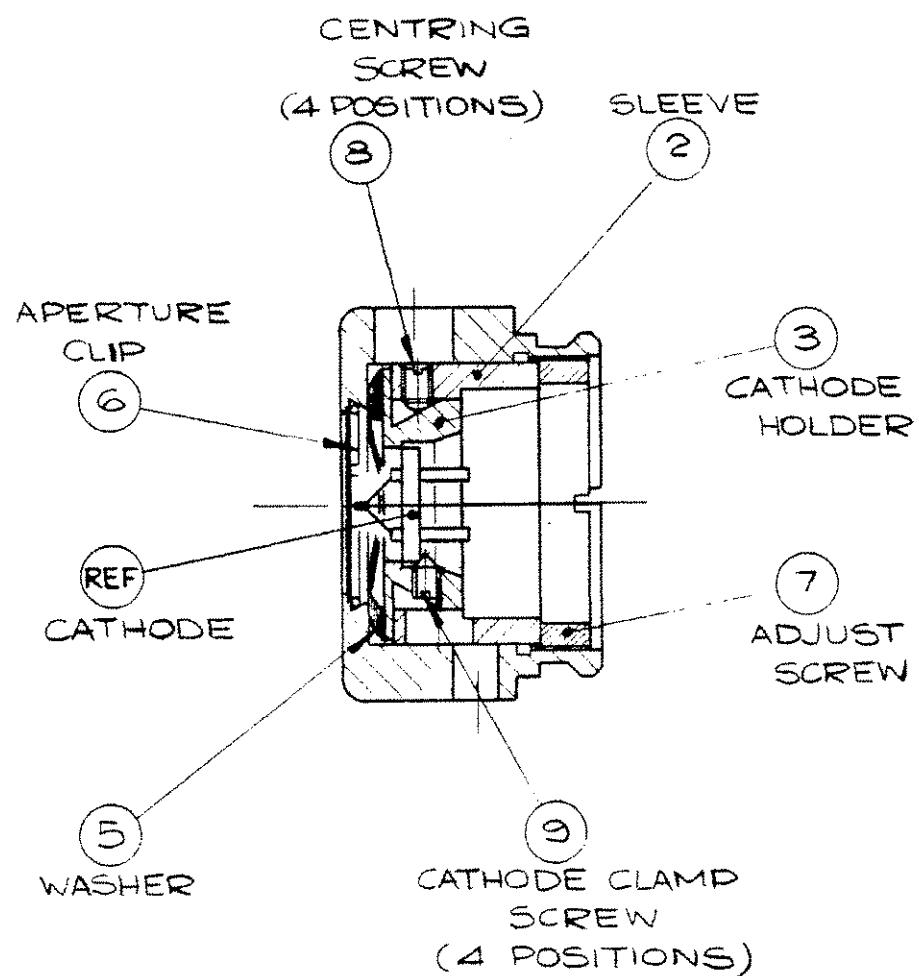

Figure 4.2.1
4.2.5.1. Replacing the Emitter (See Figure 4.2.1.).